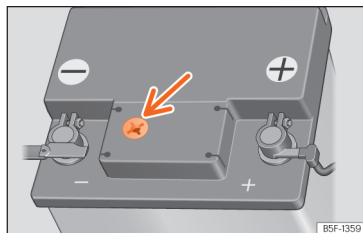

Fig. 217 Sight glass on the top of the 12-volt battery (schematic representation).
- Check the colour display in the sight glass on the top of the battery **»»** **Fig. 217**.